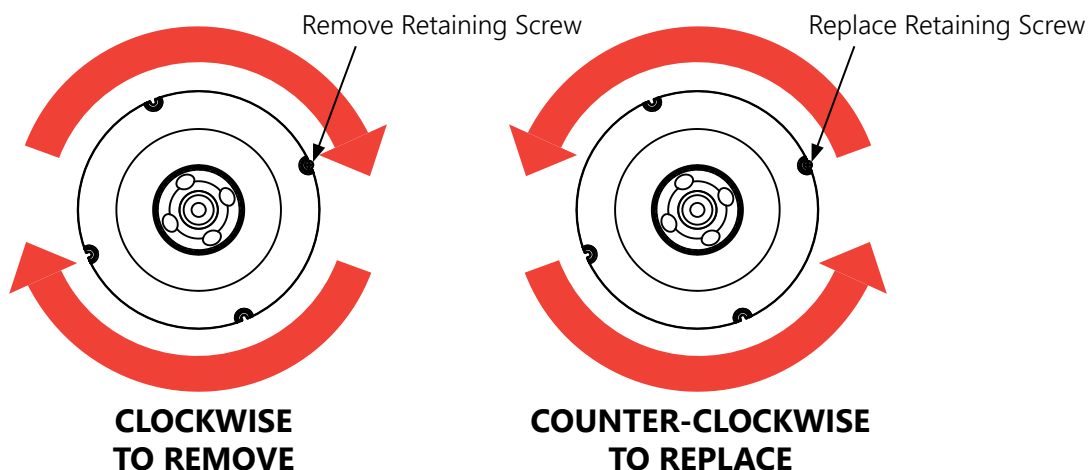

FIGURE 2: LED MODULE INSTALLATION
Each unit is carefully packed at the factory and comes with a construction debris cover that prevents most construction contamination prior to operation. Remove the light module from the body by first removing the LED Module Restraining Screw, and then turn the light module **CLOCKWISE** to remove (Figure 2). Install the debris cover. Put the light module in a safe place until ready for final installation.
- C.1.5 After the system has been started, adjust the height of the water using this valve to get the desired effect. The following tables (FIGURE 2) provides approximate values for water column height with combinations of GPM and depth of the Brilliant Wonders Lighted Bubbler mounted in the horizontal position.